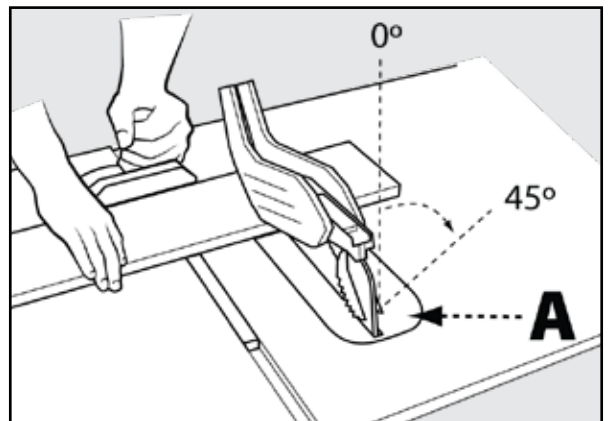

FIGURE 30
Bevel crosscutting is the same as crosscutting except the bevel angle (A) is set to an angle other than 0°. When making a bevel crosscut, place the miter gauge in the right miter slot so that the blade is tilted away from the gauge and hands. See Figure 30.